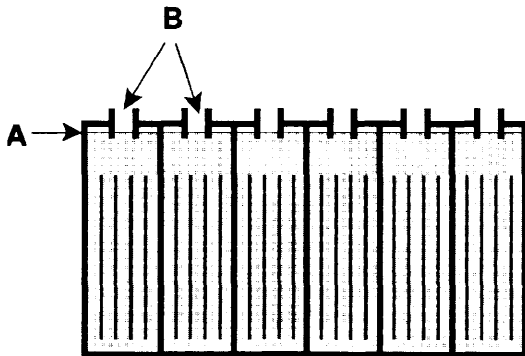

Fig. 13.
2. Each week **AFTER** charging, check water level in each battery cell of all batteries. Water level (A) should reach bottom of sight tubes (B). If needed, add just enough distilled water to reach bottom of sight tubes. **DO NOT** overfill. (Fig. 13)